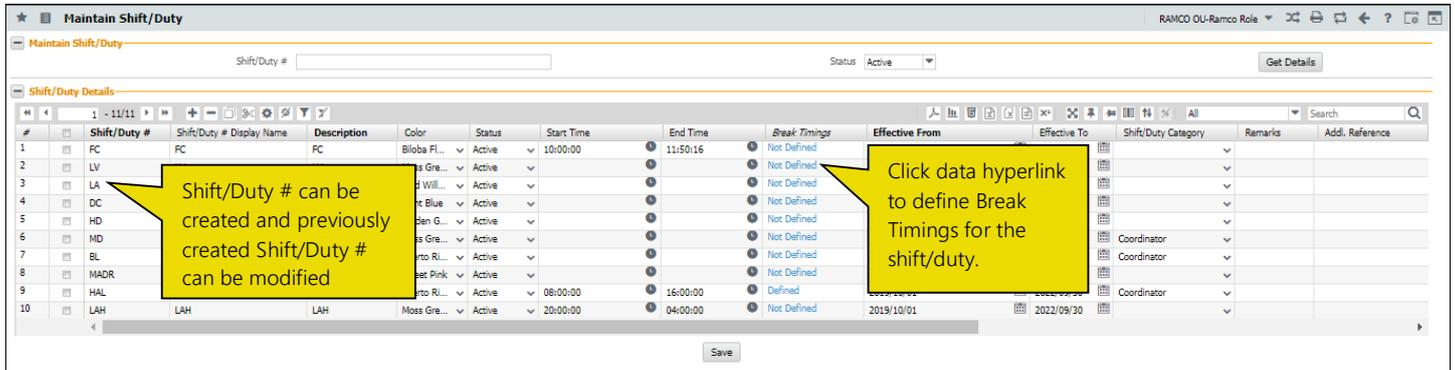

Figure 2.1 Maintaining Shift/Duty
1. Select **Maintain Shift/Duty** under **Roster Management** business component. The **Maintain Shift/Duty** page appears. See *Figure 2.1*.